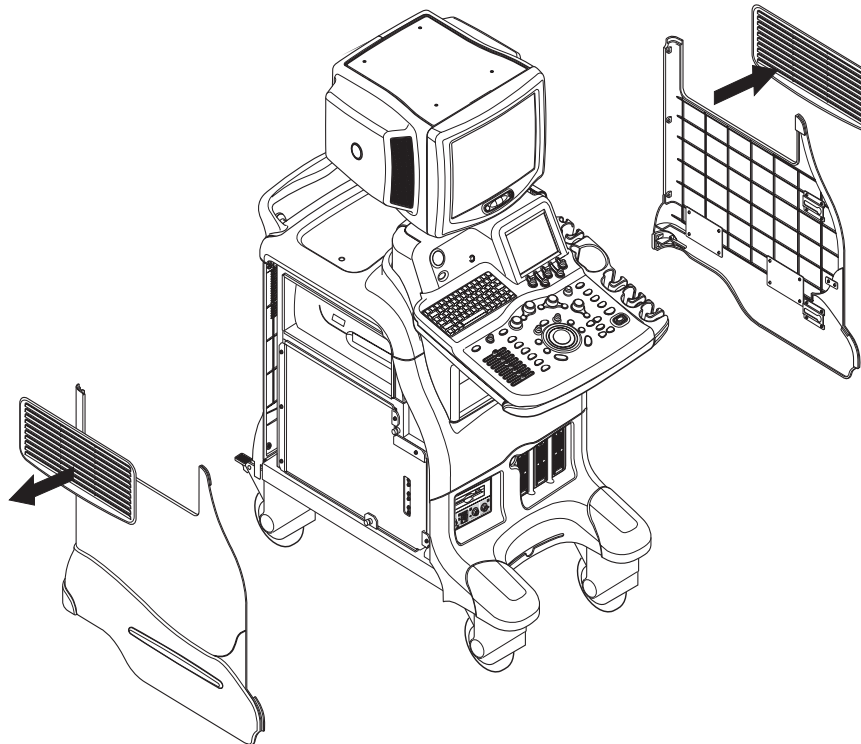

Figure 8-96 Removing Side Caps
- 4.) Pull the Side Cap upward from the Right Cover. Refer to Figure 8-96 on page 8-50 .